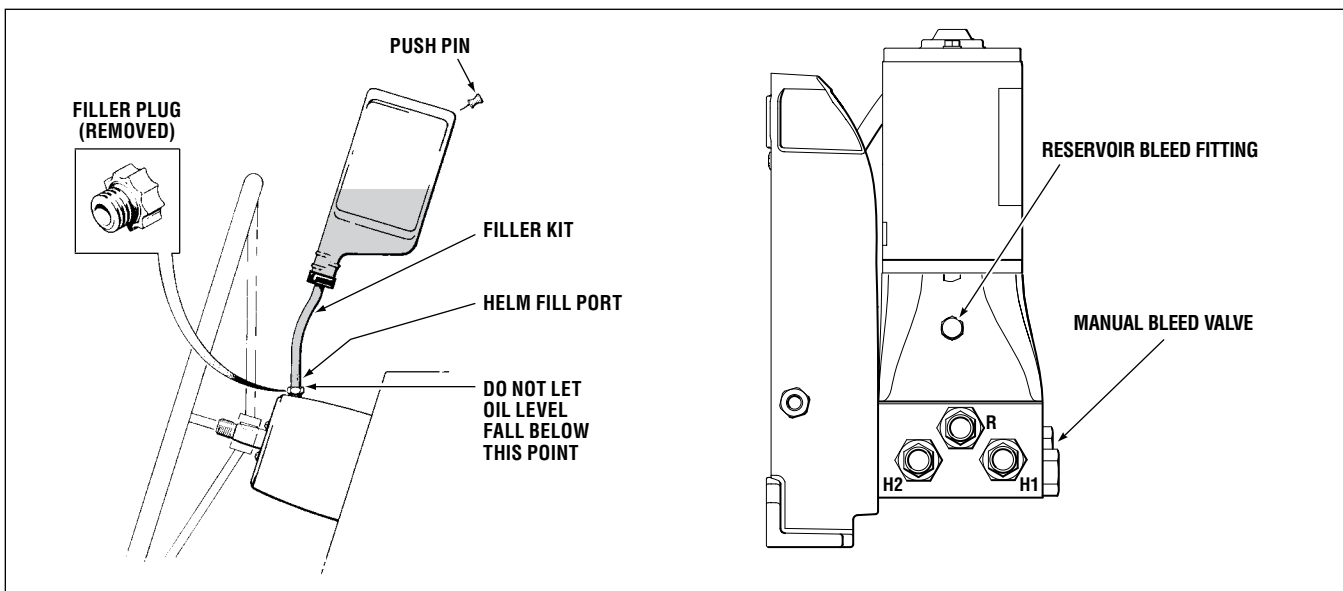

Figure 27.
- Connect one of the fluid return hoses (cylinder lines) from the Power Purge unit to the Reservoir bleed fitting on the P/A unit. (see Figure 27 on page 28 for bleed fitting location).
- Open the manual bleed valve and reservoir bleed fitting (see Figure 27) on the power assist unit. The manual bleed valve should be opened two full turns.